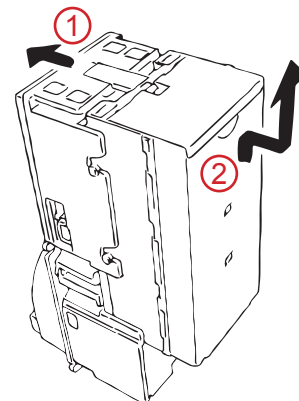

Figure 47
a. You can remove the BNA and empty the stacker in the following manner (see figures 47 and 48):